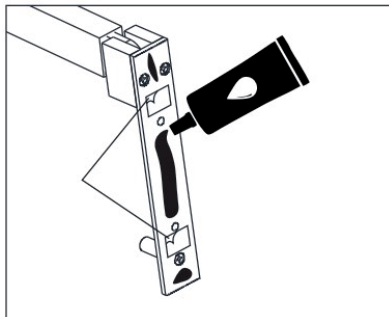

Figure 2
1. Peel off the cover of the adhesive tape on the wall plugs, and apply glue evenly on the blank place. As show in Figure 2